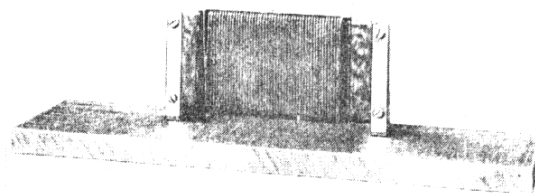

Fig. 14—Bar Type Resistor Unit and Mounting
5. WIREWOUND BAR RESISTOR—This type of resistor unit consists essentially of a resistance wire element which is wound on a mica insulated flat rectangular steel bar. The steel bar provides a very rigid support and also increases the thermal capacity of the unit. A refractory cement fills the space between the turns and prevents the turns from touching each other. Connections are made to extensions of the resistance winding. A typical bar type resistor unit is shown by Fig. 14.